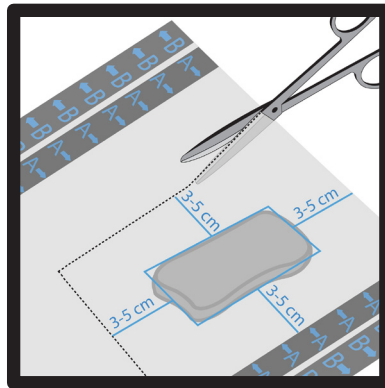

Figure 5
9. Remove the drape from the Dressing Kit. Size and trim the drape to cover the wound plus a 3-5cm border of intact skin (extra pieces of drape can be used to seal dressing leaks if needed). Always keep one side of the drape intact for ease of dressing application (**Figure 5**).